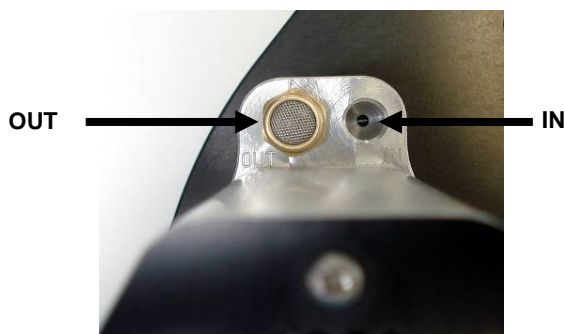

Fig. 1
2. Connect compressed air supply to connection labeled 'IN' located at actuator, see Figure 1 below.
Connect compressed air return line connection labeled 'OUT' located at actuator, see Figure 1 below.